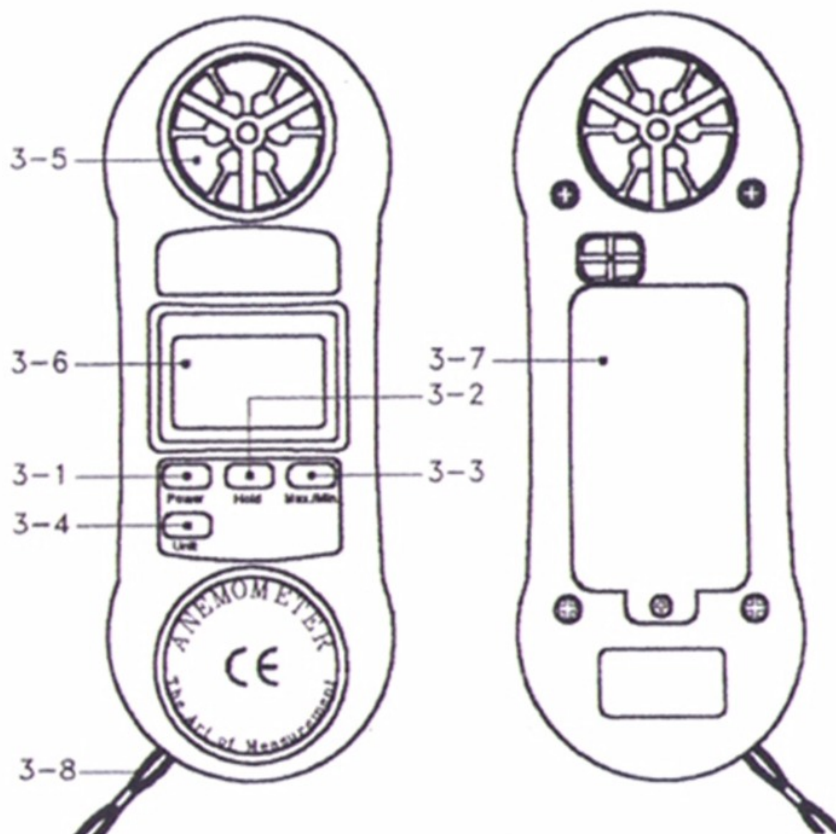

Fig. 1
- 1) Power on the instrument by pressing the " Power Button " ( 3-1, Fig. 1 ).
- 2) Press the " Unit Button " ( 3-4, Fig. 1 ) to select unit that you want and then face the " Air Flow Sensor " ( 3-5, Fig. 1 ) to the source of wind.
Pressing the "Hold Button" (3-1. fig. 1) will freeze the current value with a "HOLD" symbol on the display. Press again to release the hold function.
- 1) The Data Record function records & displays the maximum and minimum reading values. Start the Data Record function by pressing the " Max./Min. Button " ( 3-3, Fig. 1 ) once. There will be a " REC " symbol on the display.
- (a) Press the " Max./Min. Button " ( 3-3, Fig. 1 ) once and the " Max " symbol along with the maximum value will appear on the display.
- (d) Clear the Max./Min. value recorded by pressing the " Hold Button " ( 3-2, Fig. 1 ) once. Previous recorded Max./Min. value will be given up and then revert to the REC. function keep on recording.
- 2) Open the " Battery Compartment / Cover " ( 3-7 Fig. 1) and remove the battery.